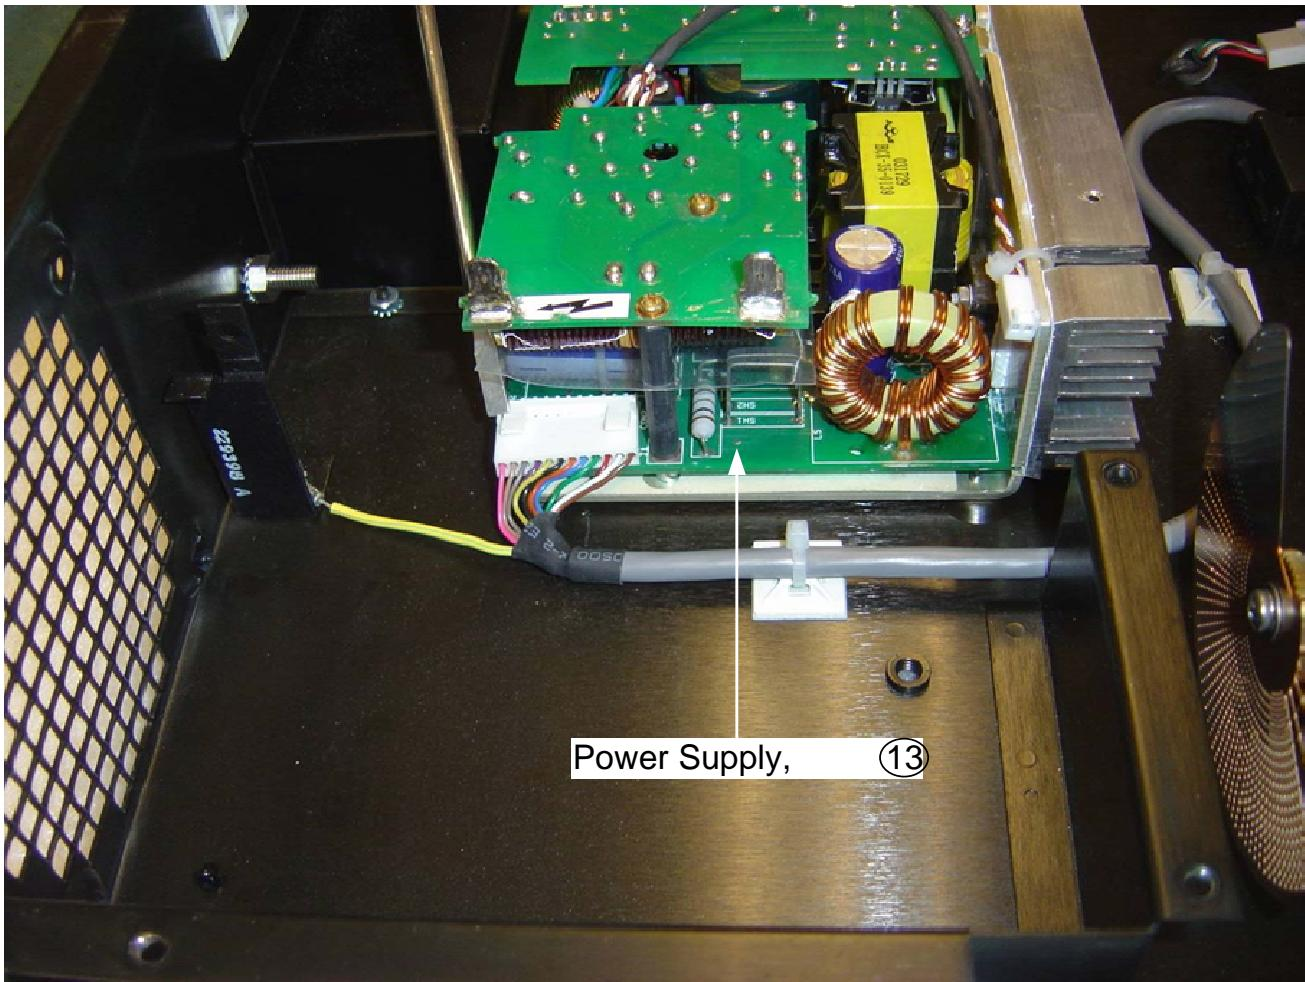

Figure 26
1. Disconnect the 12-pin connector (Con2) using a flat head screwdriver – Fig. 26.